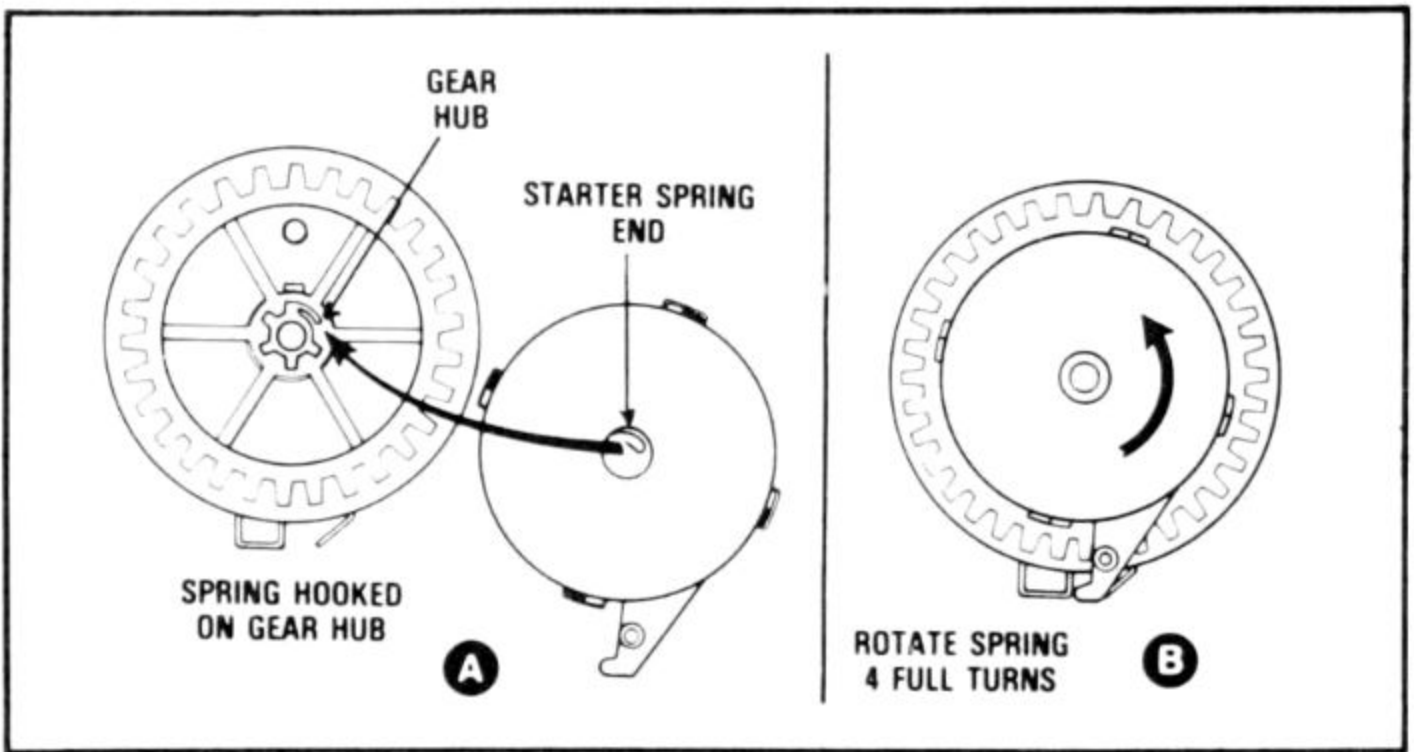

Fig. 4-38. Spring capsule engages gear hub (A), is rotated four revolutions and pinned (B).
7. Position the spring capsule on the sheave, making certain the mainspring end engages the gear hub (A of Fig. 4-38).
8. Wind four revolutions, align the brake spring ends with the strut (B of Fig. 4-38), and lock with the pin used during disassembly.